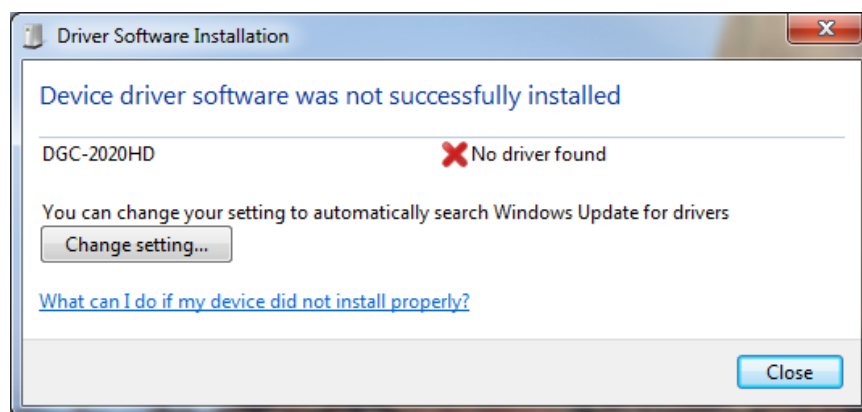

Figure 228. Driver Software Installation
- Step 1. If the message in Figure 228 is shown, close all programs and restart the computer.